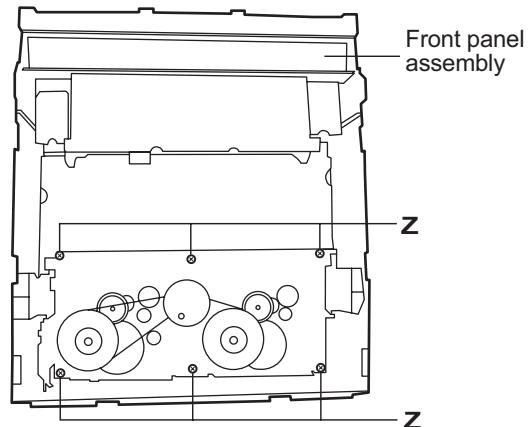

Fig.19
(See Fig.19)
3.2.10 Removing the cassette deck main motor, and replacing the main belts (See Fig.19, 24 and 25)
- (1) Remove six screws **Z** retaining the cassette deck mechanism. (Fig.19)
- (2) Remove the cassette deck mechanism.
- (3) Remove two screws **t** retaining the main motor from the front side of the cassette deck.
3.2.11 Removing the leaf switches of the cassette deck mechanism (See Fig. 19 and 26)
- (1) Remove the six screws **Z** that retain the cassette deck mechanism. (Fig.19)
- (3) Turn the cassette deck mechanism upside down.
- (4) Remove the solder from around the leaf switches.
- (5) Pull out the leaf switches from the front side of the cassette deck mechanism.
(See Fig. 19 and 27)
- (1) Remove six screws **Z** that retain the cassette deck mechanism. (Fig.19)
- (2) Remove the cassette deck mechanism and place it so that the front side faces up.
- (3) Remove the solder from the bottom side of the head terminal and disconnect the wire.
- (4) Remove screws **U** that retains the head.
- (5) Remove screws **V** that retains the head.
- (6) Hold the head and slide it in the direction of the arrow to remove it.